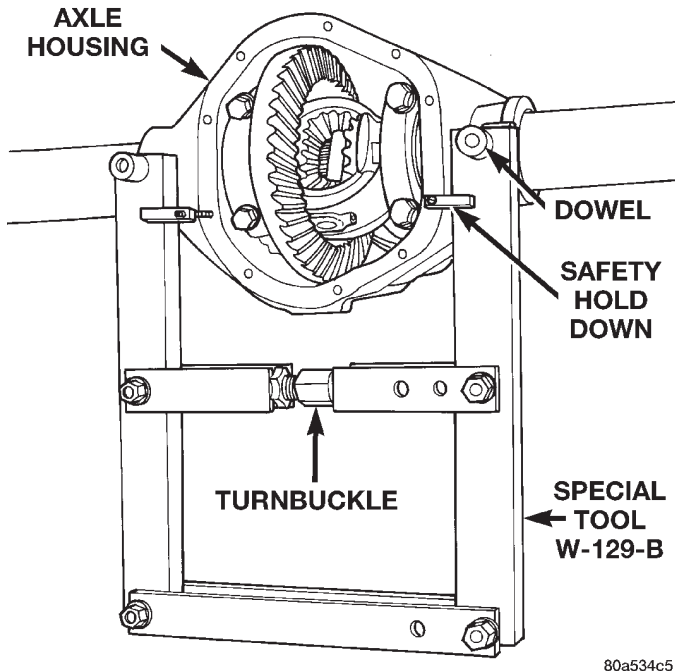

Fig. 36 Install Axle Housing Spreader
(1) Position Spreader W-129-B, utilizing some items from Adapter set 6987, with the tool dowel pins seated in the locating holes (Fig. 36). Install the hold-down clamps and tighten the tool turnbuckle finger-tight.